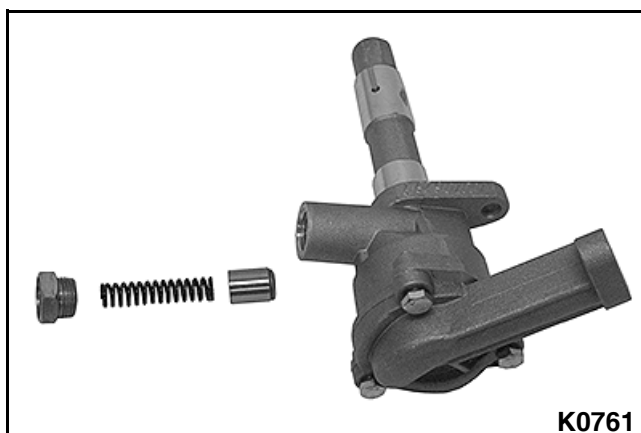

Figure 3-195
8. Remove the plug, spring, and relief valve from the oil pump body. **See Figure 3-195.**